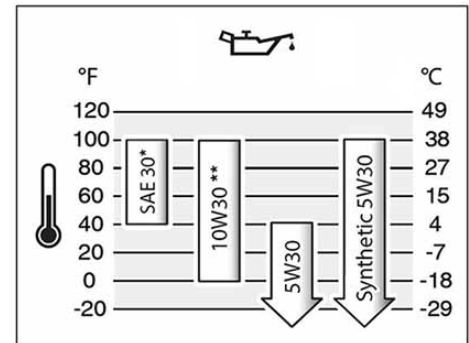

Figure 9
**Note:** Refer to the Oil type Chart for selecting the proper Oil for ambient temperature range (Figure 9).